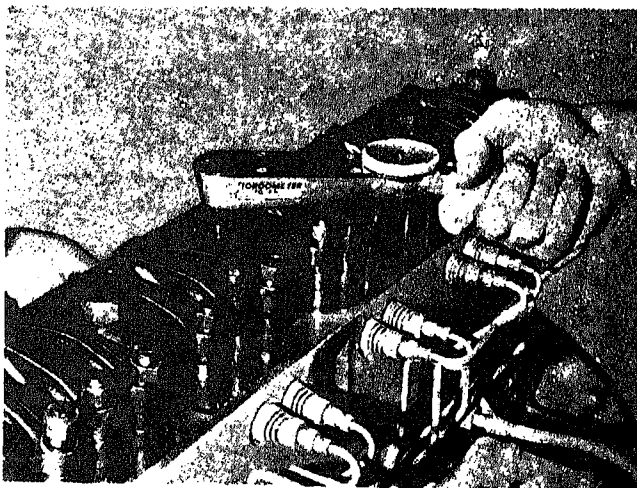

Fig. 14-1-83. Torquing injector lever adjusting screw
7. Tighten adjusting screw to 48 in. lbs. [.5520 kg m] (70°F.) [21.1°C.] setting. Use a torque wrench equipped with a screw driver adapter, graduated in inch-pound divisions, and having a maximum capacity of 150 in. lbs. [1.7250 kg m], Fig. 14-1-83.